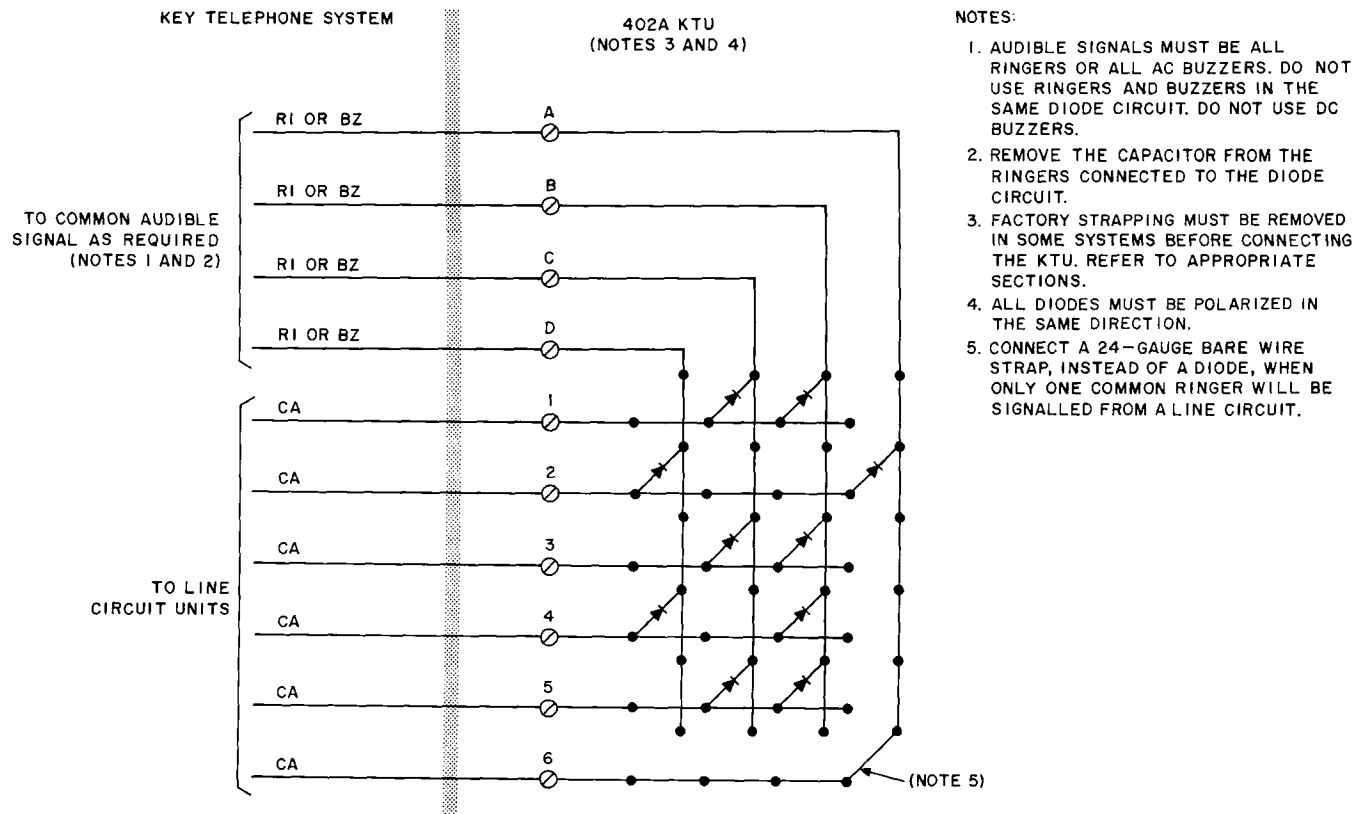

Fig. 3 — Typical Connections For 402A KTU
4.02 Connect the common ringer leads and the line circuit control leads to the KTUs as required (see Fig. 3 and 4).